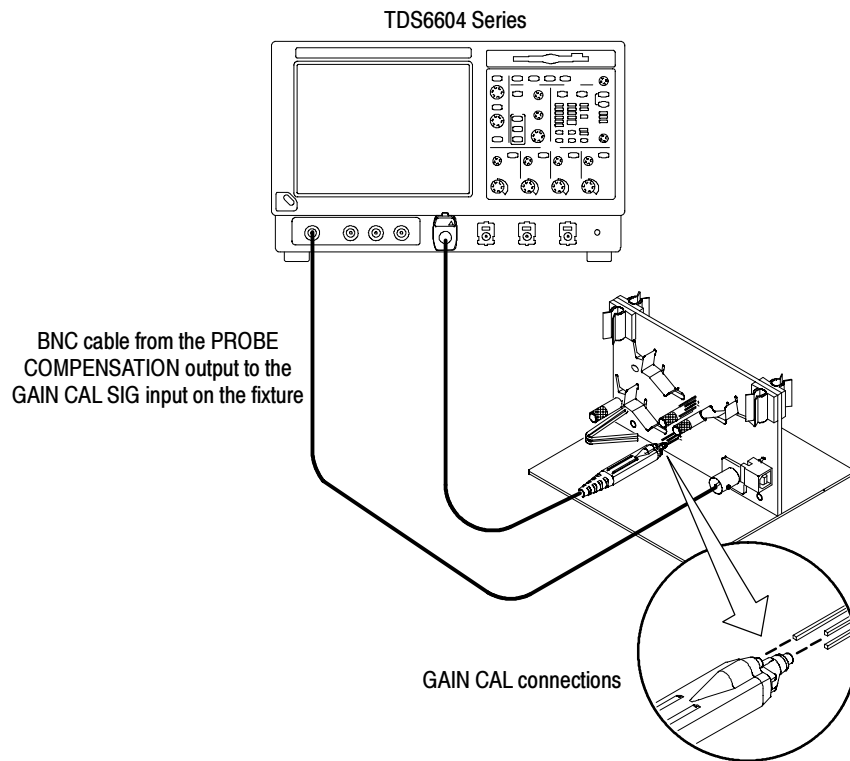
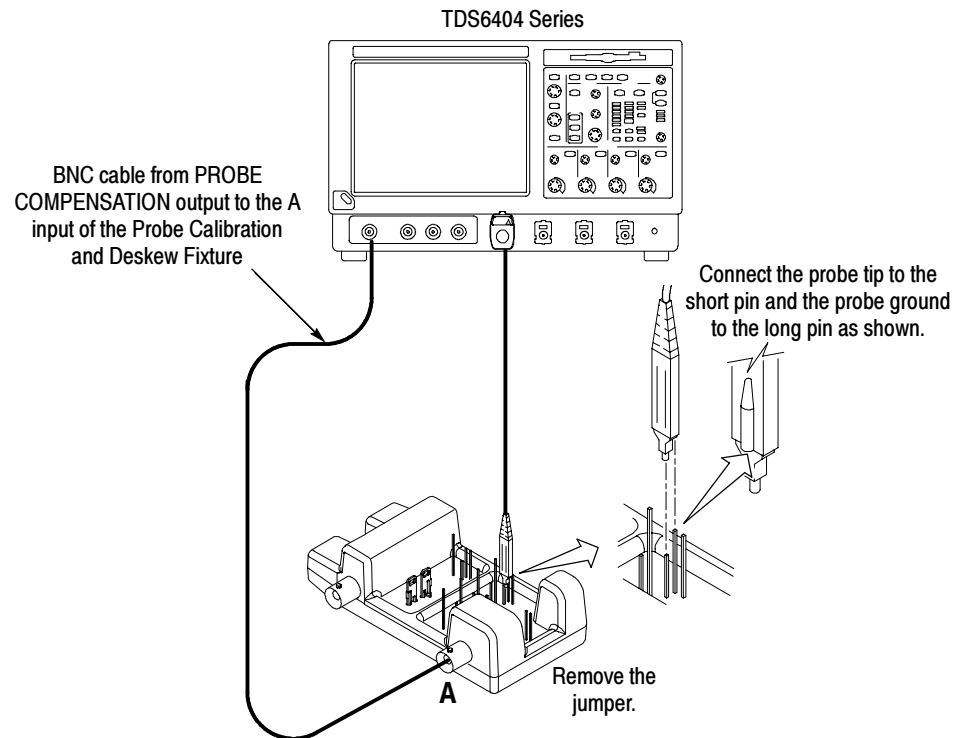

Figure 4-2: Universal test hookup for functional tests - CH 1 shown
Figure 4-3: Universal test hookup for functional tests - CH 1 shown
2. *Hook up the signal source:* Connect one end of the BNC cable to the PROBE COMPENSATION output connector in the oscilloscope. Connect the remaining end of the BNC cable to the GAIN CAL SIG connector of the fixture as shown in Figure 4-2 (TDS6604) on page 4-8 or Figure 4-3 (TDS6404) on page 4-9.
4. Connect the probe tip to the GAIN CAL pins on the fixture as shown in Figure 4-2 (TDS6604) on page 4-8 or Figure 4-3 (TDS6404) on page 4-9.